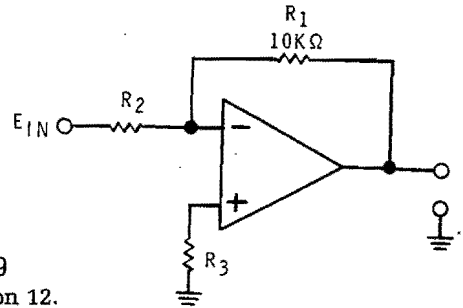

Figure 3-89
12. If the circuit shown in Figure 3-89 is to have a gain of 20, the value of  $R_2$  should be: